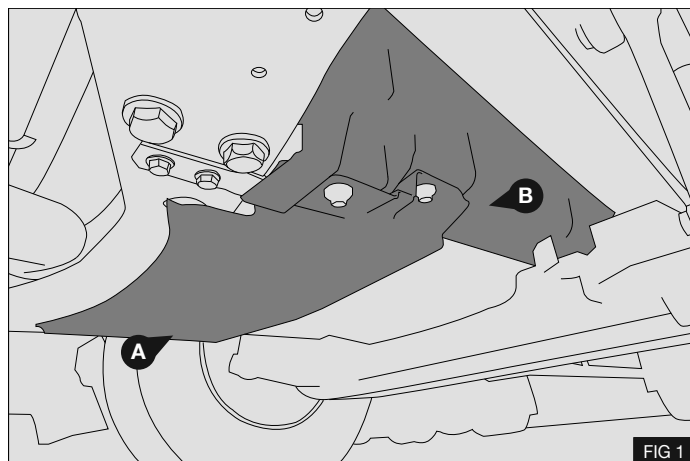

FIG 1
2. Remove the engine under tray (A) and side panel (B) - Fig 1